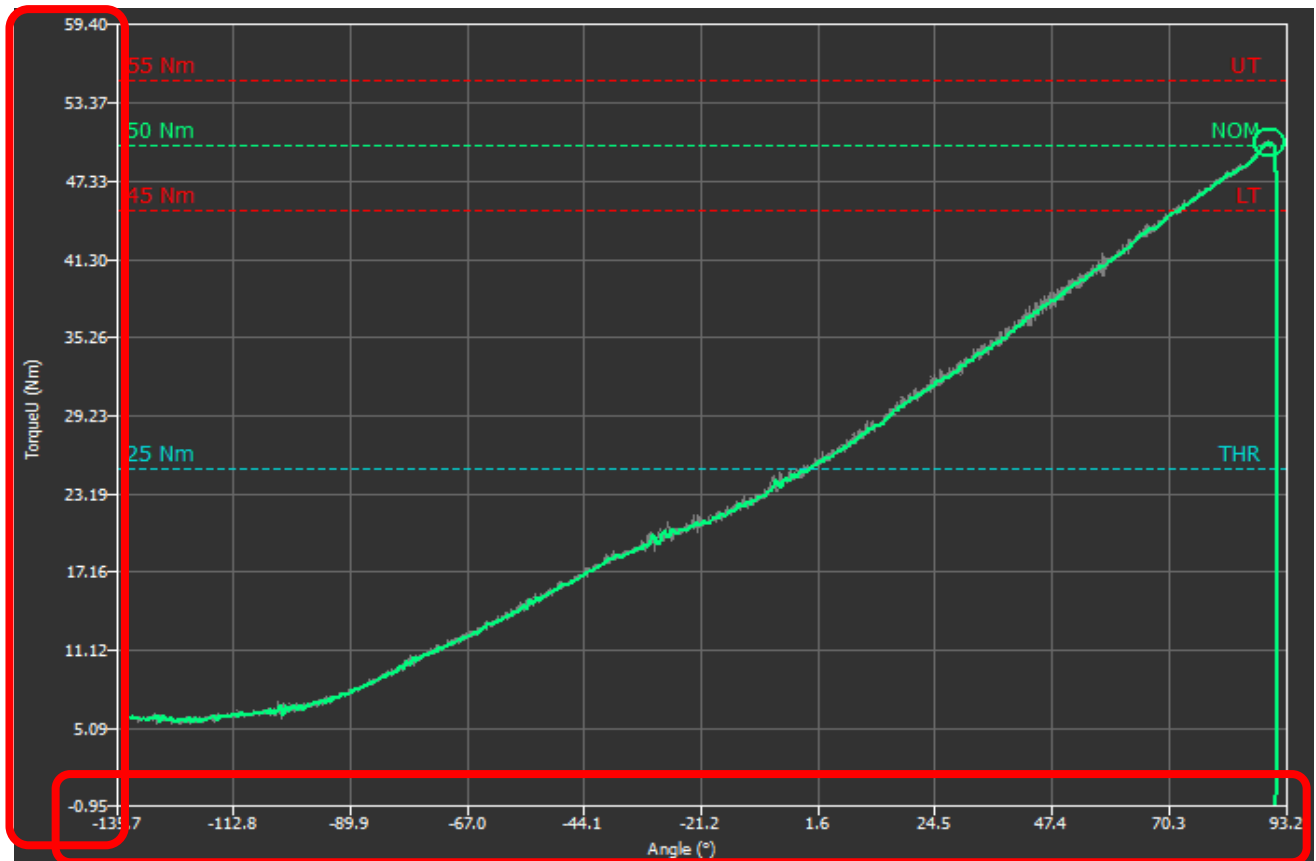
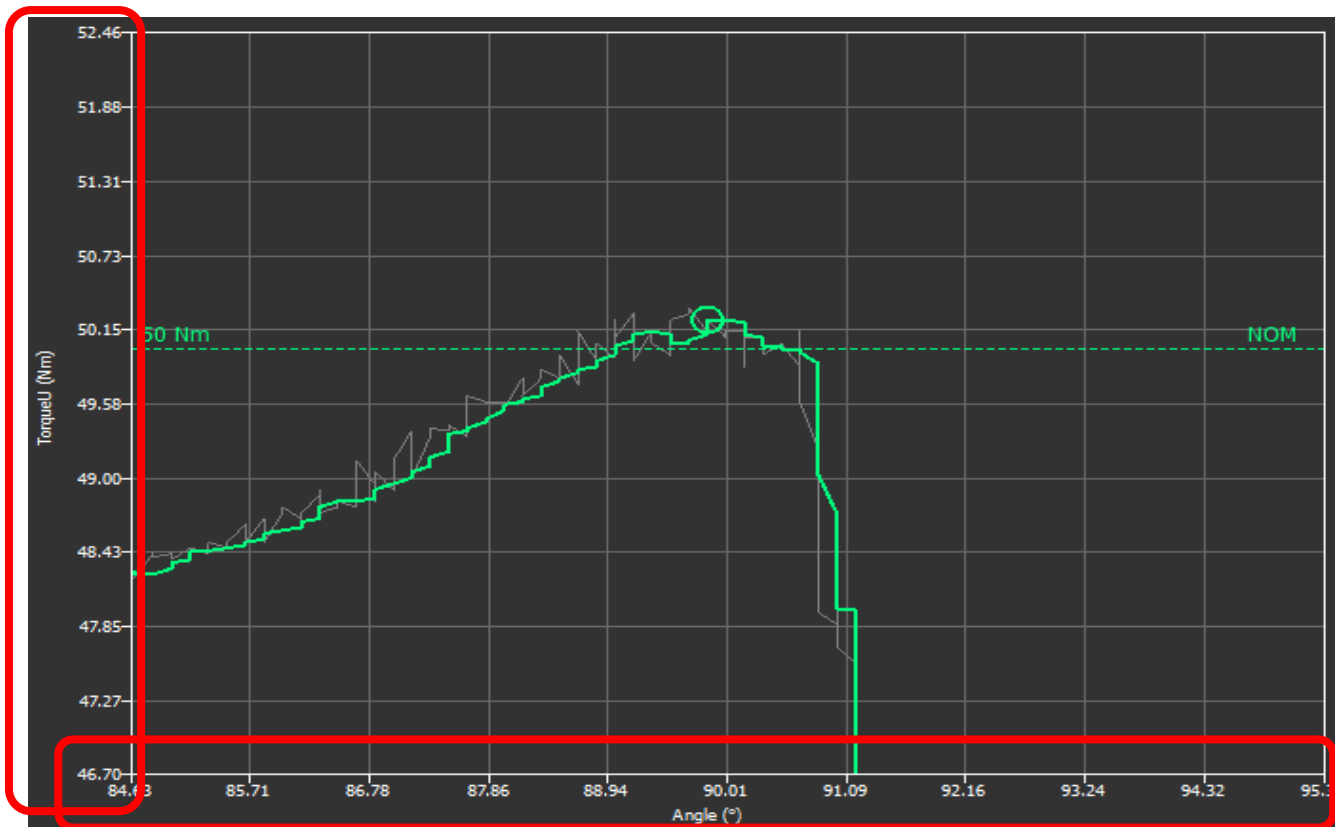

Figure 19
Figure 20
- when the trace chart is zoomed, the number of the indicators in the X and Y axes remain the same. So doing is easier to consult the trace data and to calculate a range of value between two indicator (See **Figure 19** and **Figure 20**).